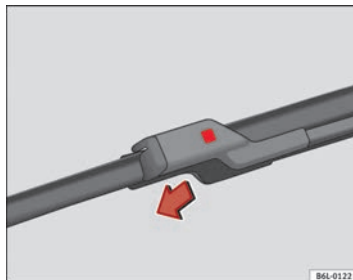

Fig. 138 Change windscreen wiper blade ▶
- Press on the securing tab ⇒ Fig. 138.